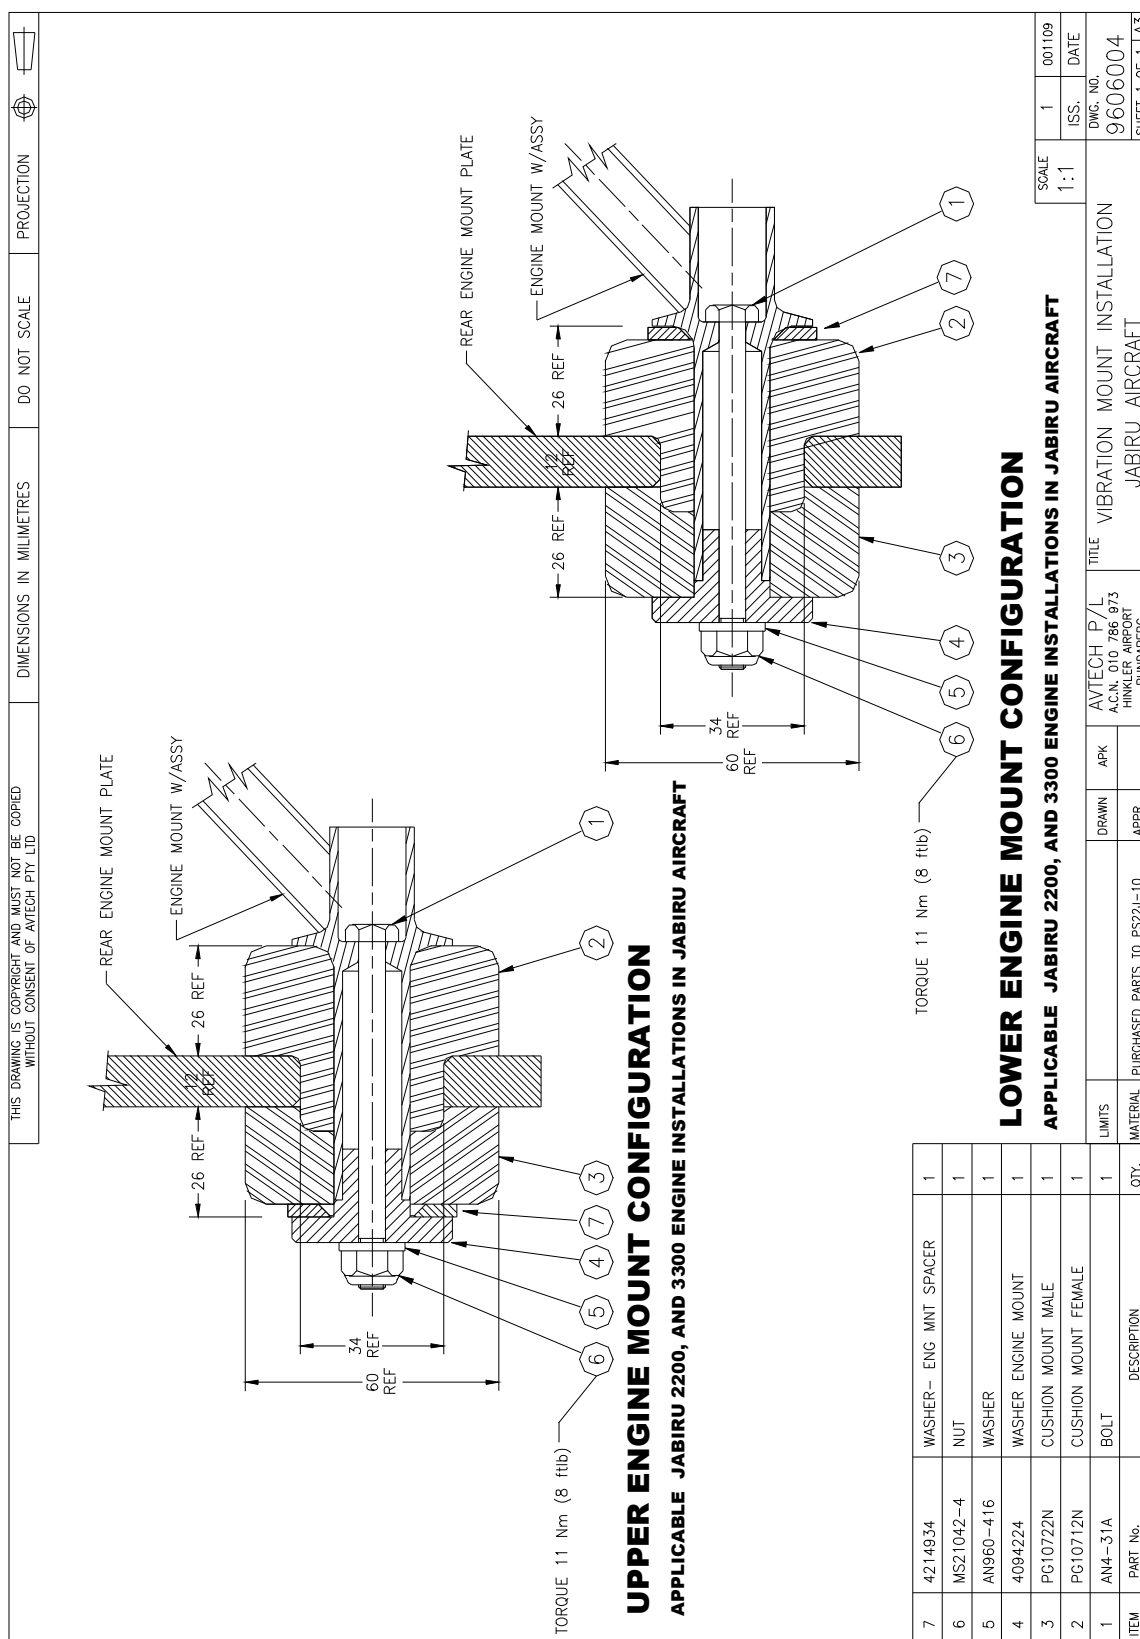

Figure 42. Engine Mount Detail
- Attach male engine mount rubbers to all engine mount pins on the engine mount. Place an AN4-31A bolt through each mount. Note that an engine mount spacer washer is fitted between the male rubber & the lower engine mount pins (Refer to Figure 42 below).
- The lower engine mount rubbers are assembled in the same way, except the male engine mount rubber is fitted to the engine mount pins first. Refer to Figure 42 below.